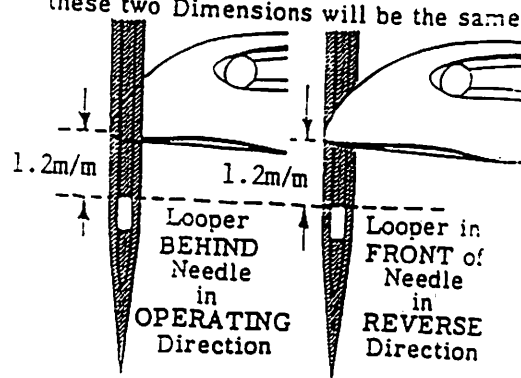

Fig. 5
8) Synchronizing needle and looper (Fig 5)